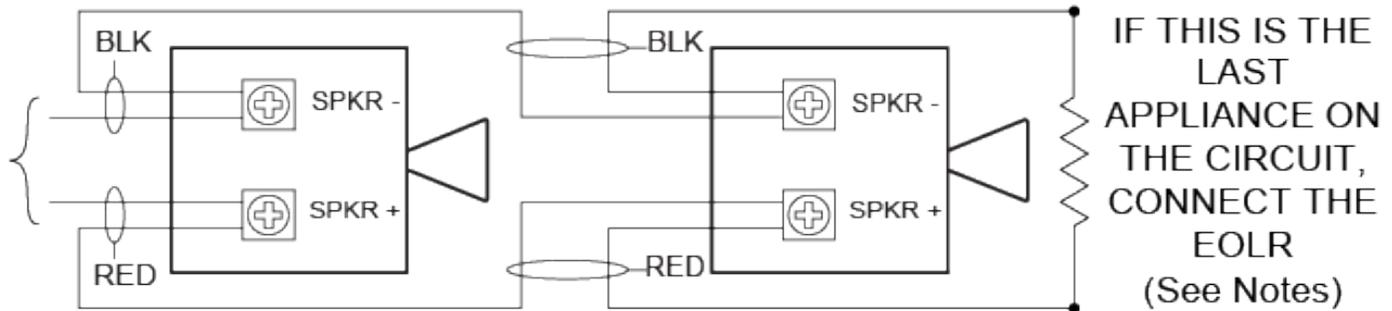

Figure 3: TrueAlert Speaker Wiring
1. At the enclosure box, connect the wires to the SPKR + and SPKR - terminals at the rear of the speaker unit. **Torque the terminal block screws to 12 to 15 in/lbs. to ensure proper continuity.** See Figure 3 .